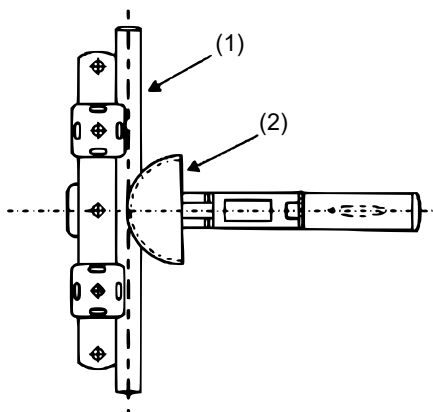

Figure 4
1. Fix the pipe and pressing piece and place the pipe onto the module via the corresponding notch. Then place the corresponding pressing piece into the end of the frame, following the different pipe sizes, as shown in Fig. 4.